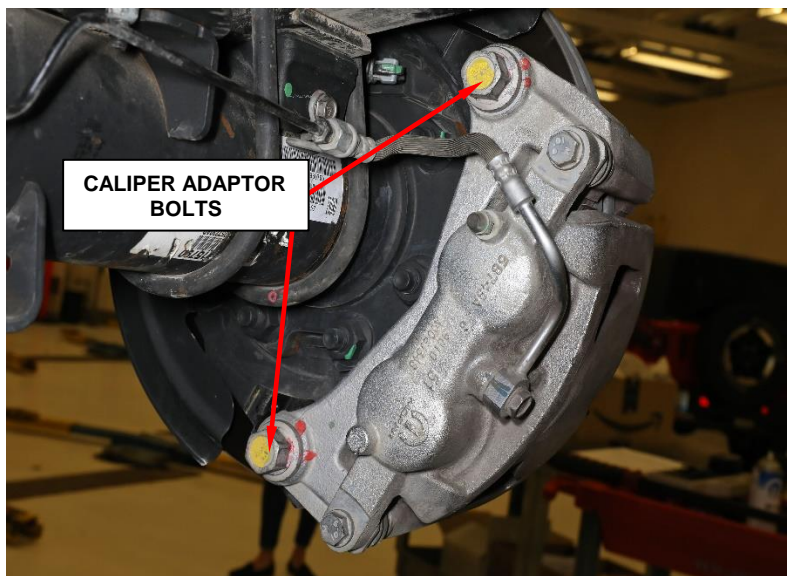

Figure 8 – Caliper Assembly
3. Remove the brake caliper adaptor bolts and brake caliper as an assembly and support the caliper (Figure 8).
- 35. Position the caliper adapter and caliper to the mounting bracket (Figure 8).
- 2019 - 2021 D2, DD** 353N·m (260ft. lbs.) (Figure 8).
- 2012 - 2021 DP** 545N·m (402ft. lbs.) (Figure 8).